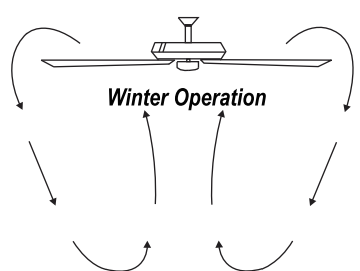

Figure 19
**Cool Weather (Reverse)-** An upward airflow moves warm air off the ceiling area as shown in Fig. 19. This allows you to set your heating unit on a cooler setting without affecting your comfort.